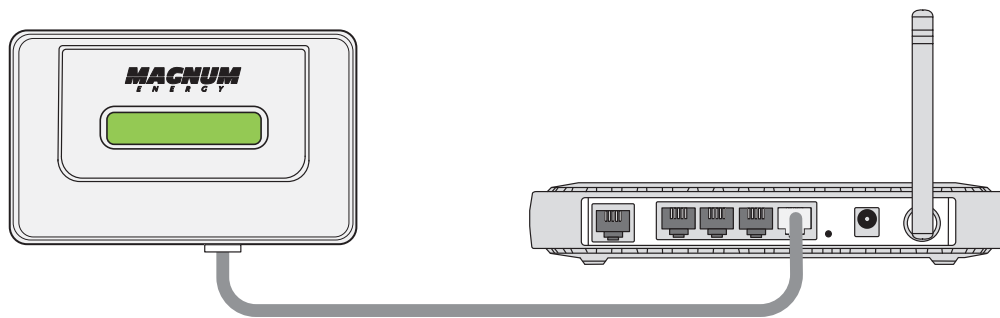

Figure 7, Connecting the MagWeb GT Directly to Router
2. Connect the other end of the CAT5 network cable to an open port on the broadband router (Figure 7).